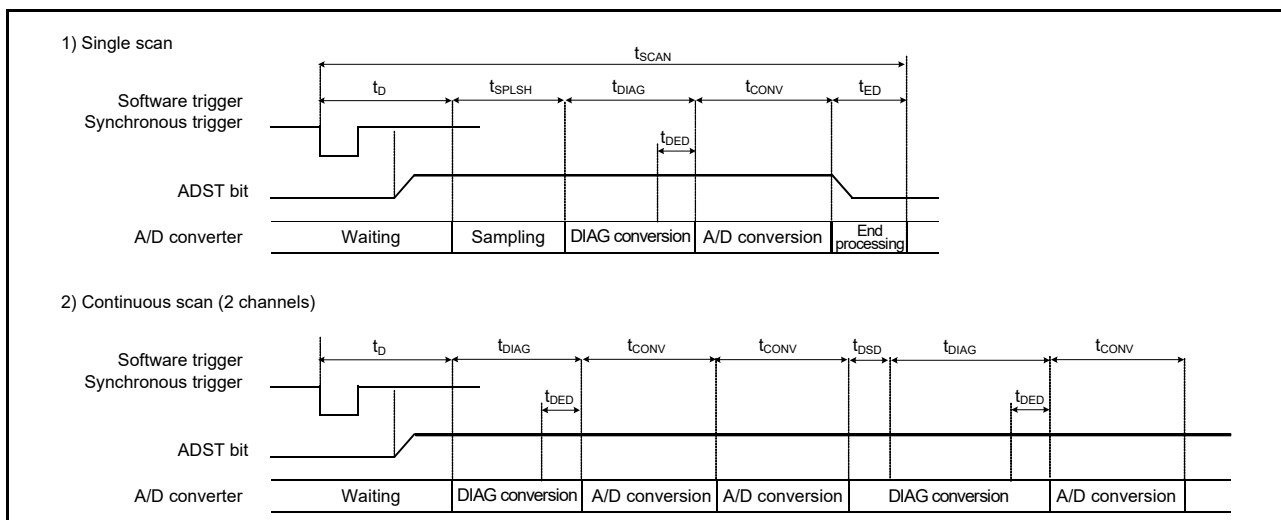
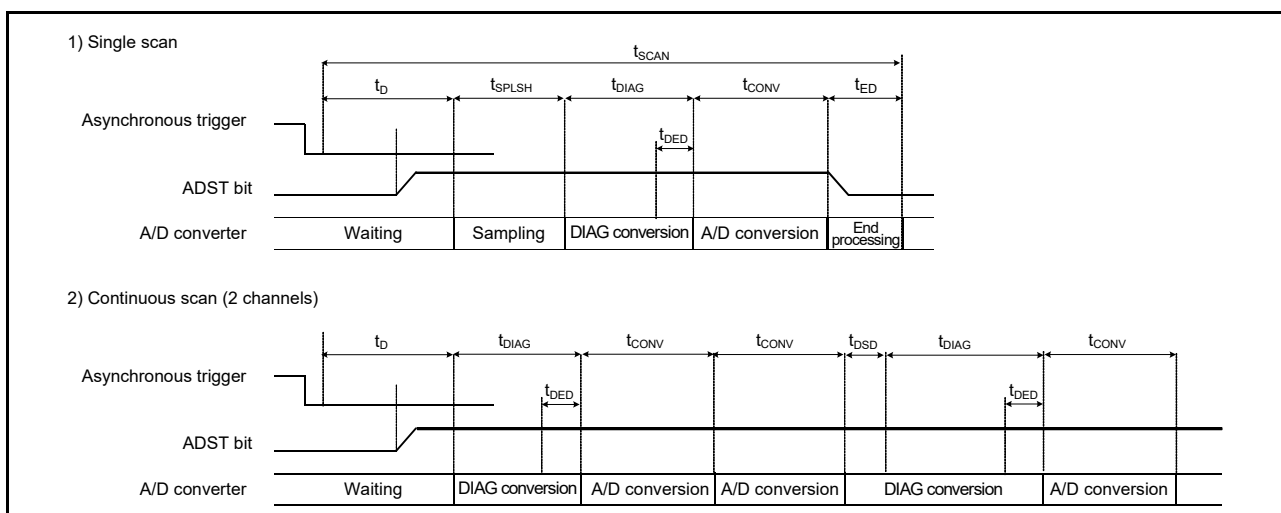

Figure 35.34 Scan conversion timing when activated by software or a synchronous trigger input (ELC)
Figure 35.35 Scan conversion timing when activated by an asynchronous trigger input (ADTRG0)
Figure 35.34 shows the scan conversion timing, in which scan conversion is activated by a software trigger or a synchronous trigger (ELC). Figure 35.35 shows the scan conversion timing, in which scan conversion is activated by an asynchronous trigger, ADTRGn. The scan conversion time (t_{SCAN}) includes the start-of-scanning-delay (t_D), channel-dedicated sample-and-hold circuit processing time (t_{SPLSH}),^{*1} disconnection detection assistance processing time (t_{DIS}),^{*2} self-diagnosis A/D conversion processing time (t_{DIAG}),^{*3} A/D conversion processing time (t_{CONV} and t_{DSD}), channel-dedicated sample-and-hold circuit end time (t_{SHED}),^{*4} and end-of-scanning-delay (t_{ED}).
- Note 1. See Figure 35.34 and Figure 35.35 for an illustration of times t_D , t_{SPLSH} , t_{DIAG} , t_{CONV} , and t_{ED} .